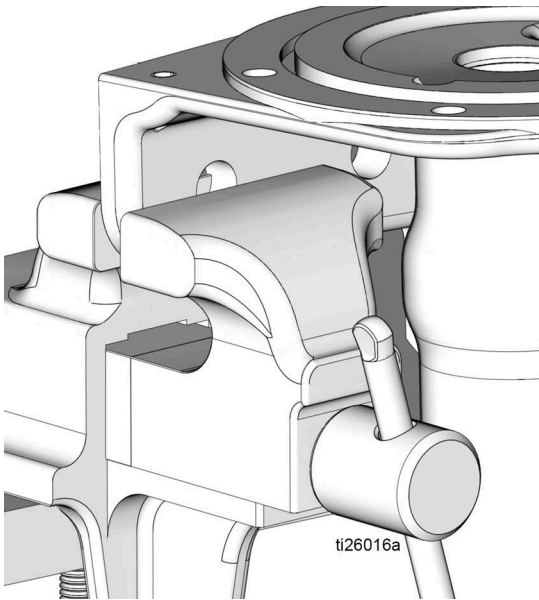

**FIG. 29**
21. Remove square o-ring (8) from the pump base (1) (FIG. 29). Dispose of o-ring according to all regulations for proper disposal